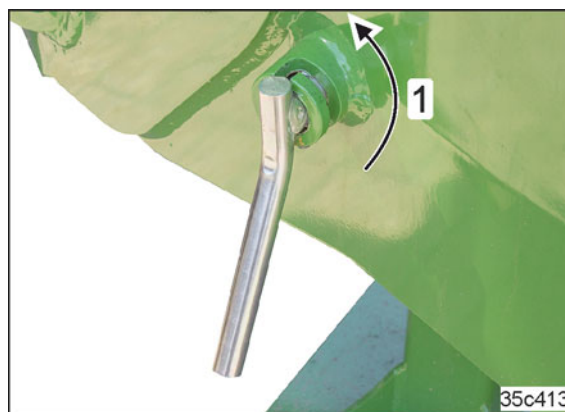

Fig. 133
- 5.1 Turn the locked pin (Fig. 133/1) by 180° until the clamping sleeve (see Fig. 135/1) is released.
8. Lock the pin by turning (see Fig. 133)